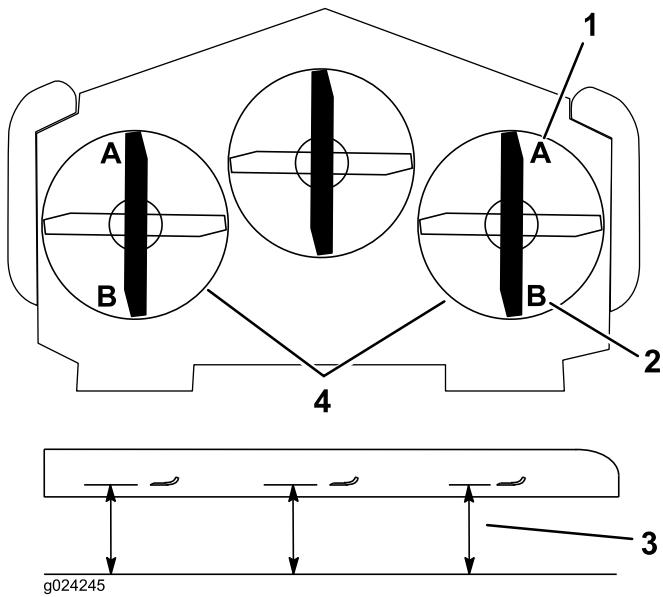

Figure 83
8. On both sides of the deck, measure from the level surface to the front tip of the blade (Position A) (Figure 83).
**Note:** The measurement should read 7.6 mm (3 inches); refer to Figure 83.
14. On both sides of the deck, measure from the level surface to the back tip of the blade (Position B). Ensure the measurement is 8.3 cm (3-1/4 inches) (Figure 83).